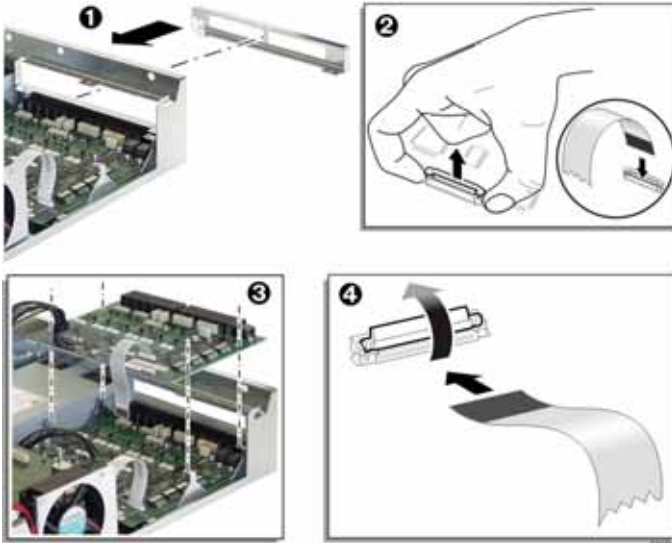

Figure 45: Screws and Standoffs on the Analog Option Board
2. Insert the replacement faceplate into the back of the controller and attach it with screws (1). See Figure 45 on page 180.
4. Attach the flex and power cables. To attach the flex cable, lift up on the tabs at the end of the connector to loosen it, insert the cable label side down, and then press down on the tabs to tighten connector (2).
5. Lower the AOB into place and attach it with the supplied screws (3).
6. Connect the other ends of the flex cable and power cable where indicated in Figure 45. The horizontal flex cable connector is hinged: flip up to loosen it, insert the cable, and then press down to tighten (4).